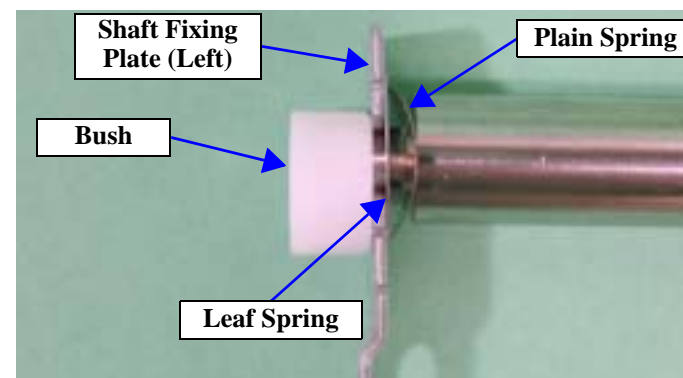

Figure 4-81. Order on Left End of Carriage Guide Shaft A
- Make sure that the left end of the Carriage Guide Shaft A is in order of the Bush, Shaft Fixing Plate (Left), Plain Spring and Leaf Spring. Refer to Figure 4-81, "Order on Left End of Carriage Guide Shaft A".